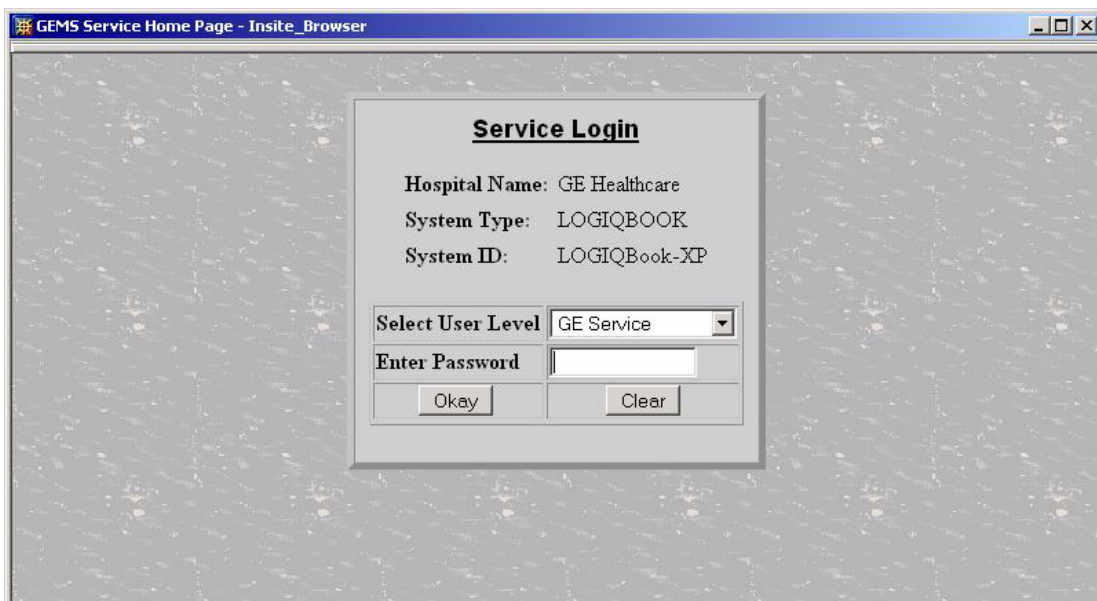

Figure 7-9 Service Login Page
- 3.) Select GE Service in option of User Level of GEMS Service Home page and input correct password, press OK button. See Figure 7-9 on page 7-9